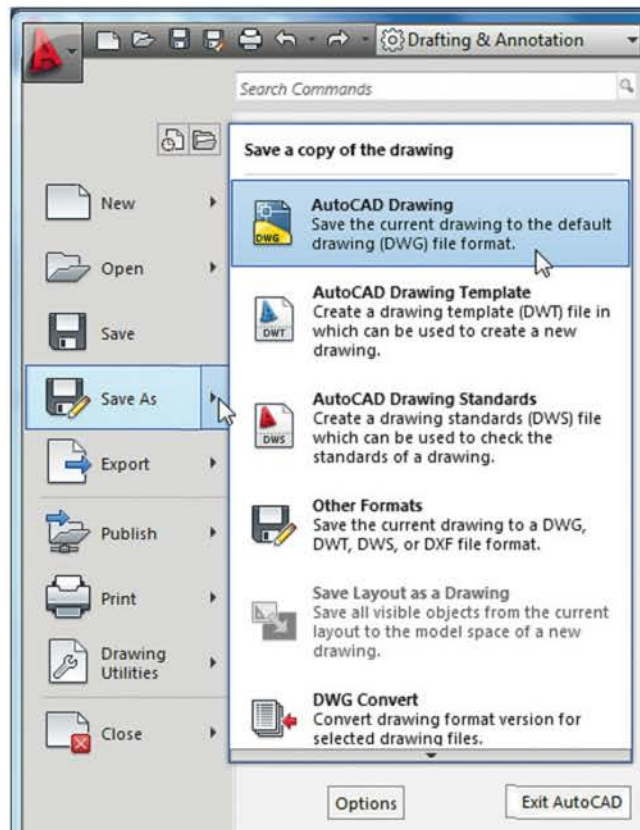
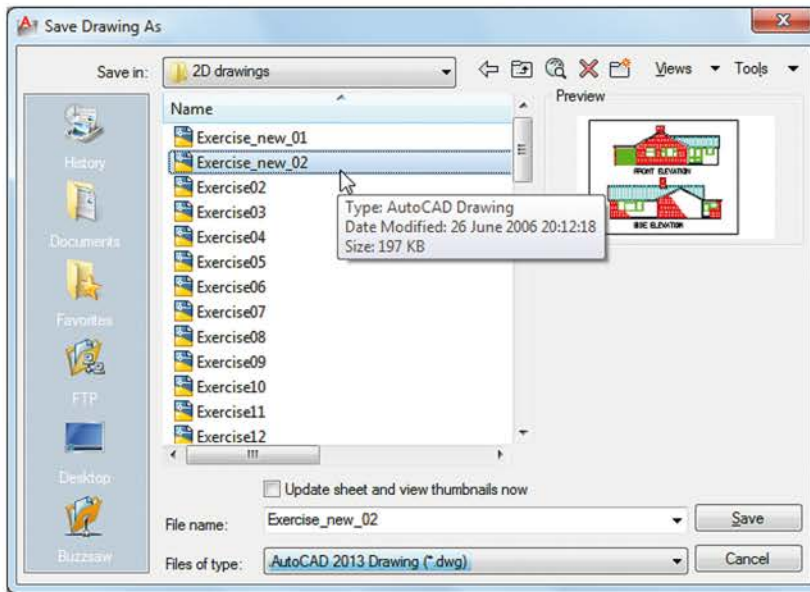

Fig. 4.9 The Save As list
Fig. 4.10 The Save Drawing As dialog
Before going further, it is as well to know how to save the drawings constructed when answering examples and exercises in this book. When a drawing has been constructed, *left-click* on **Save As** in the menu appearing with a *left-click* on the AutoCAD icon at the top left-hand corner of the window (Fig. 4.9). The **Save Drawing As** dialog appears (Fig. 4.10).
4. *Left-click* the **Save** button of the dialog. The drawing will be saved with the file name extension **.dwg** – the AutoCAD file name extension (Fig. 4.10).